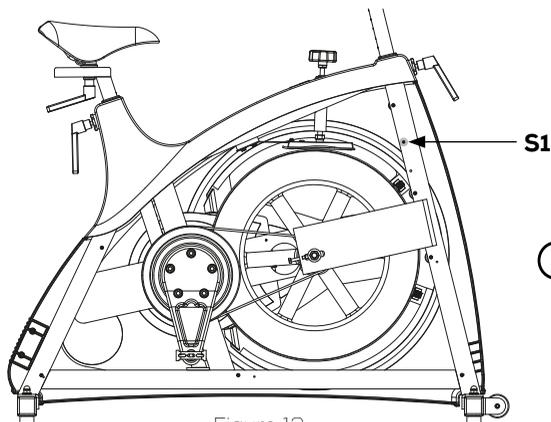

Figure 13
2) Adjust the 5x6mm pinion screw, marked S1 by using a 2.5 mm Allen wrench, see figure 13.